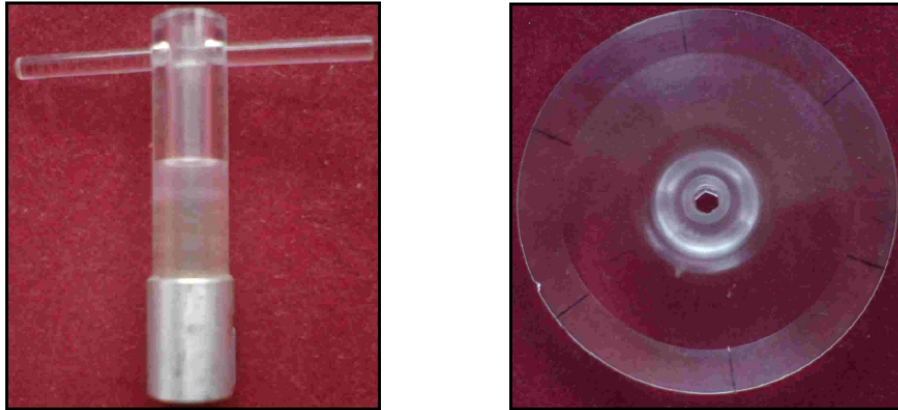

Figure 1: Left - azimuthal tool; right - hexagonal key tool
- Adjustment of the automatic manipulator is made with the help of two adjustment tools shown in Figure 1 - azimuthal setting tool and hexagonal key tool (disc).